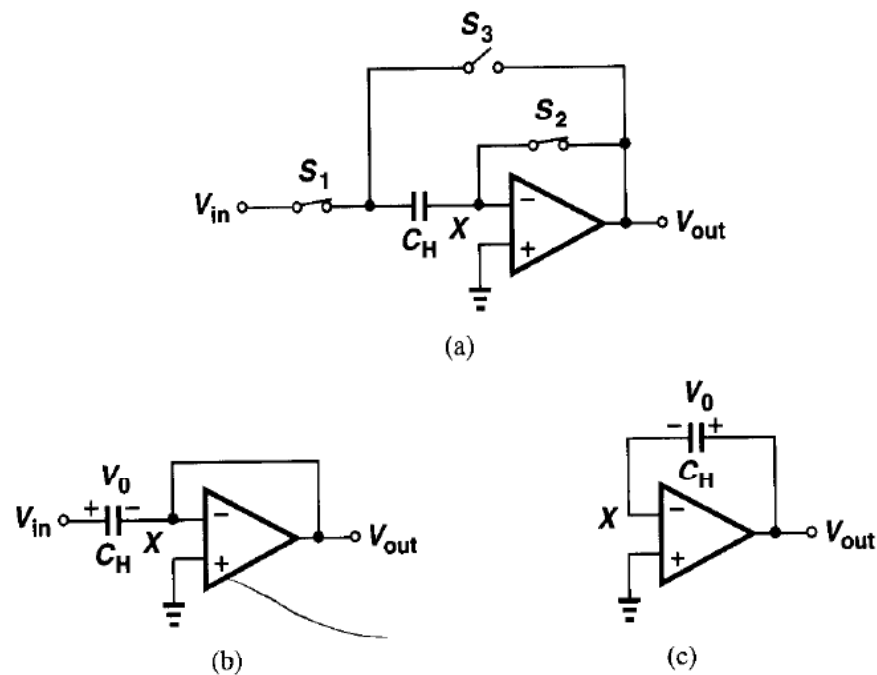

Figure 12.30 (a) Unity-gain sampler, (b) circuit of (a) in sampling mode, (c) circuit of (a) in amplification mode.
- We'll see a **SC-implementation that does not have significant problems with charge injection**, if proper clocking is used (Fig. 12.30).
- In the **amplification mode** the circuit from Fig. 12.30 operates as a **unity-gain** buffer. How close to unity?